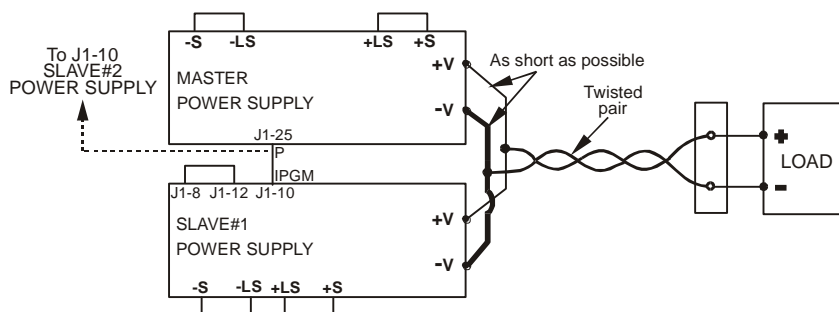
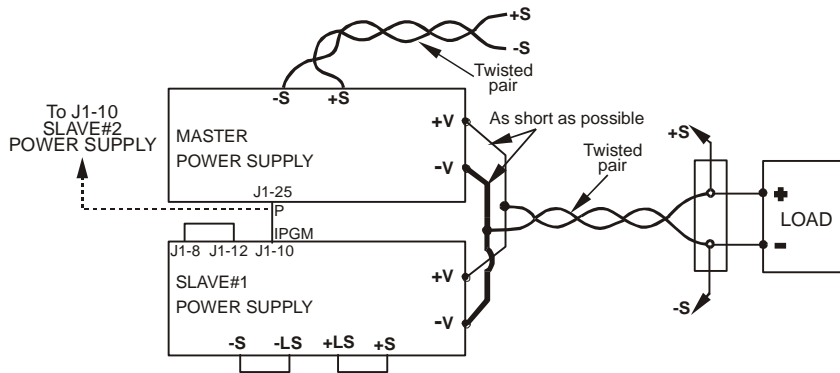

Fig.5-4: Parallel connection with local sensing
Fig.5-5: Parallel operation with Remote sensing
Set the Master unit Output Voltage to the desired voltage. Program the Output Current to the desired load current divided by the number of parallel units. During operation, the Master unit operates in CV mode, regulating the load voltage at the programmed Output Voltage. Connect the sensing circuit to local or remote sensing as shown in Fig.5-4 or fig.5-5.
In parallel operation, power supplies can be connected in local or remote sensing. Refer to Fig. 5-4 and 5-5 for typical connections of parallel power supplies. The figures show connection of two units, however the same connection method applies for up to 4 units.
- Select Local or Remote sense - Ref. Figures 5-4 and 5-5